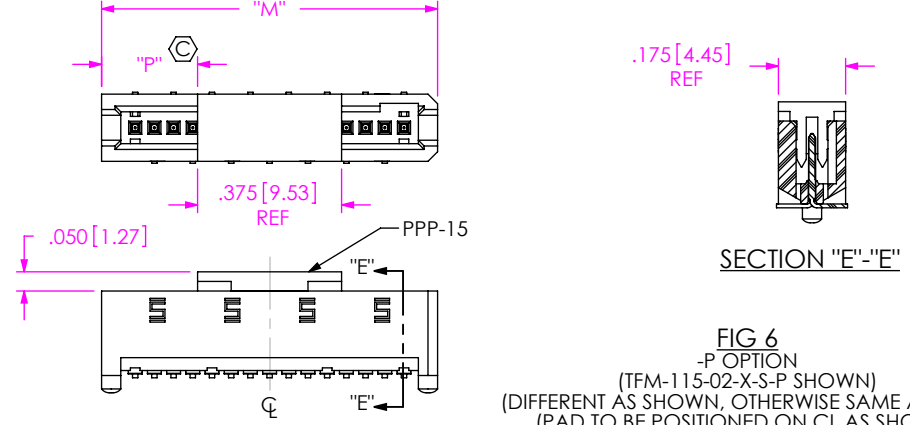

FIG 6
-P: PICK AND PLACE PAD (USE PPP-15) (SEE FIG 6, SHT 2)